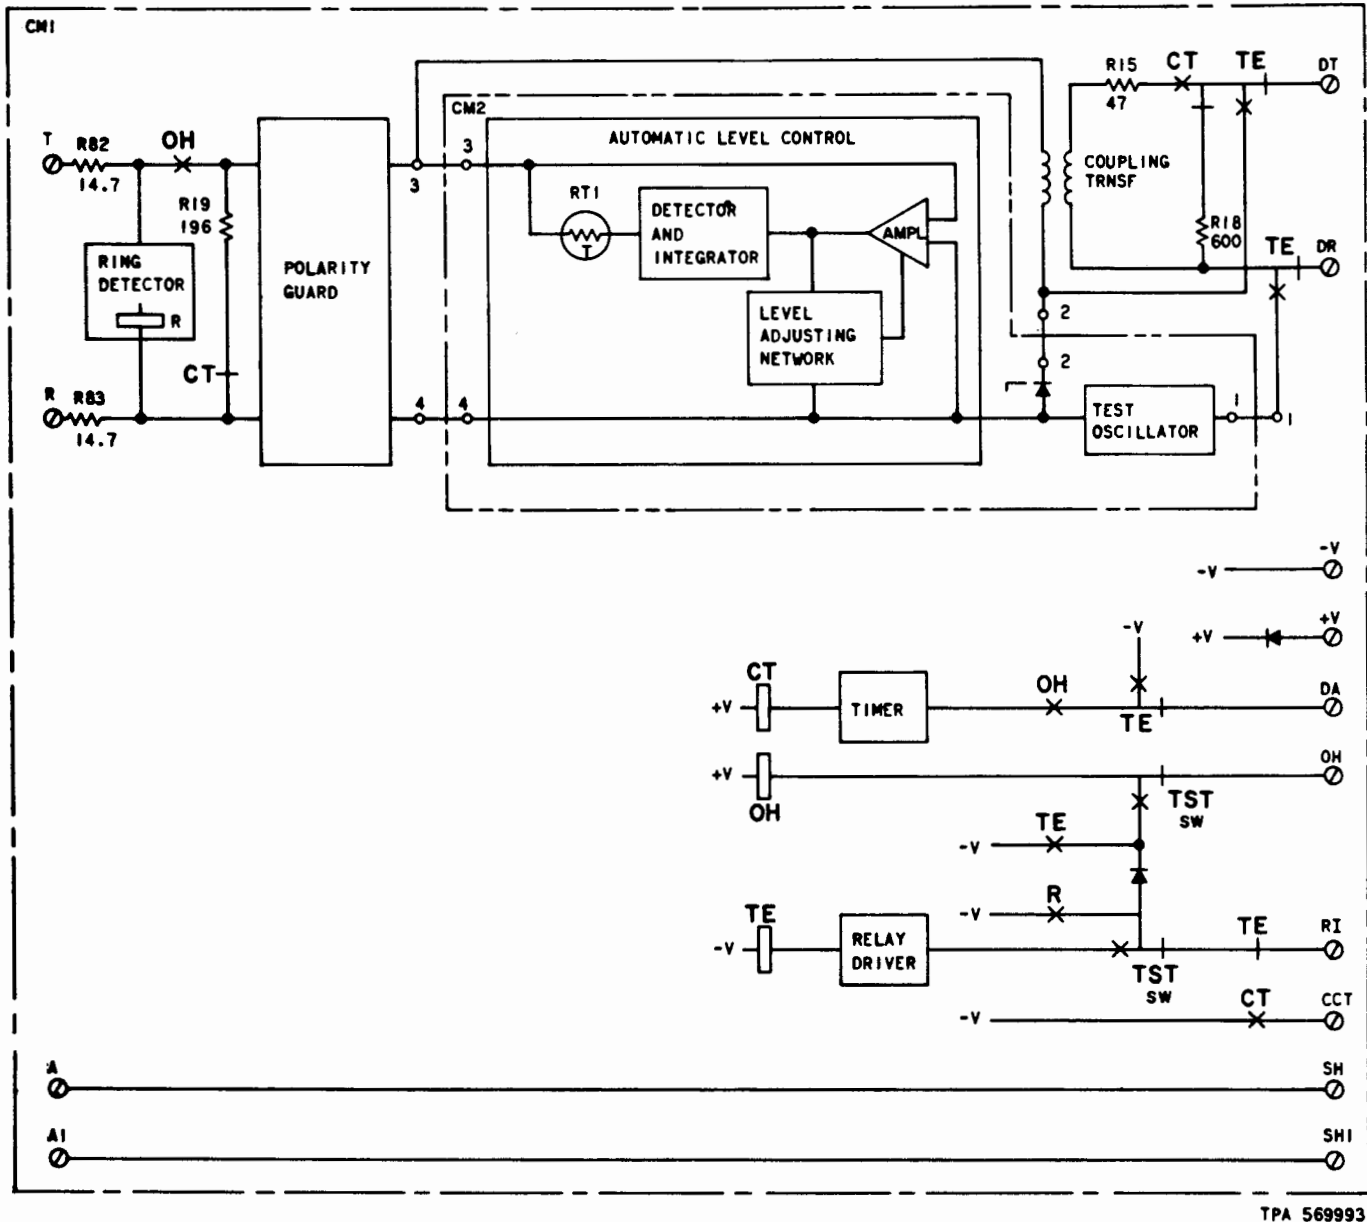

Fig. 6—1001D Data Coupler, Test Mode
**2.22** The data coupler test circuit provides the means for applying a test tone to the line through the ALC circuit (Fig. 6). This permits testing the level control, the local loop, and certain control functions of the coupler. The circuit is designed to be tested remotely from the local test desk, although a data test center or other designated test locations may perform the test.